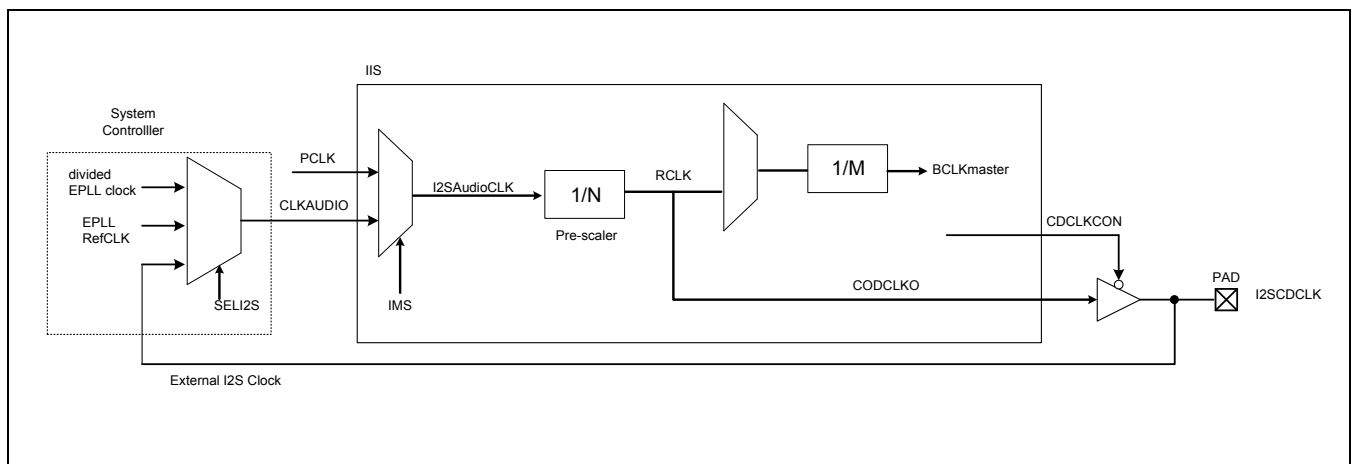

Figure 25-2. IIS Clock Control Block Diagram
Figure 25-2 shows the route of the root clock with internal master(PCLK, divided EPLL clock , EPLLRefClock) or external master(External I2S clock) mode setting in IIS clock control block and system controller. Note that RCLK indicates root clock and this clock can be supplied to external IIS codec chip at internal master mode and slave mode.(when CDCLKCON bit of IISMOD register is 1) At slave mode RCLK doesn't affect to I2SSCLK and I2SLRCLK, but for correct I2S functioning setting RFS, BFS are needed.
2. Now then, you choose clock source. S3C2450 has four clock sources. Those are PCLK, divided EPLL clock EPLLRefCLK and external codec. If you want to know more detail, refer Figure 25-2.